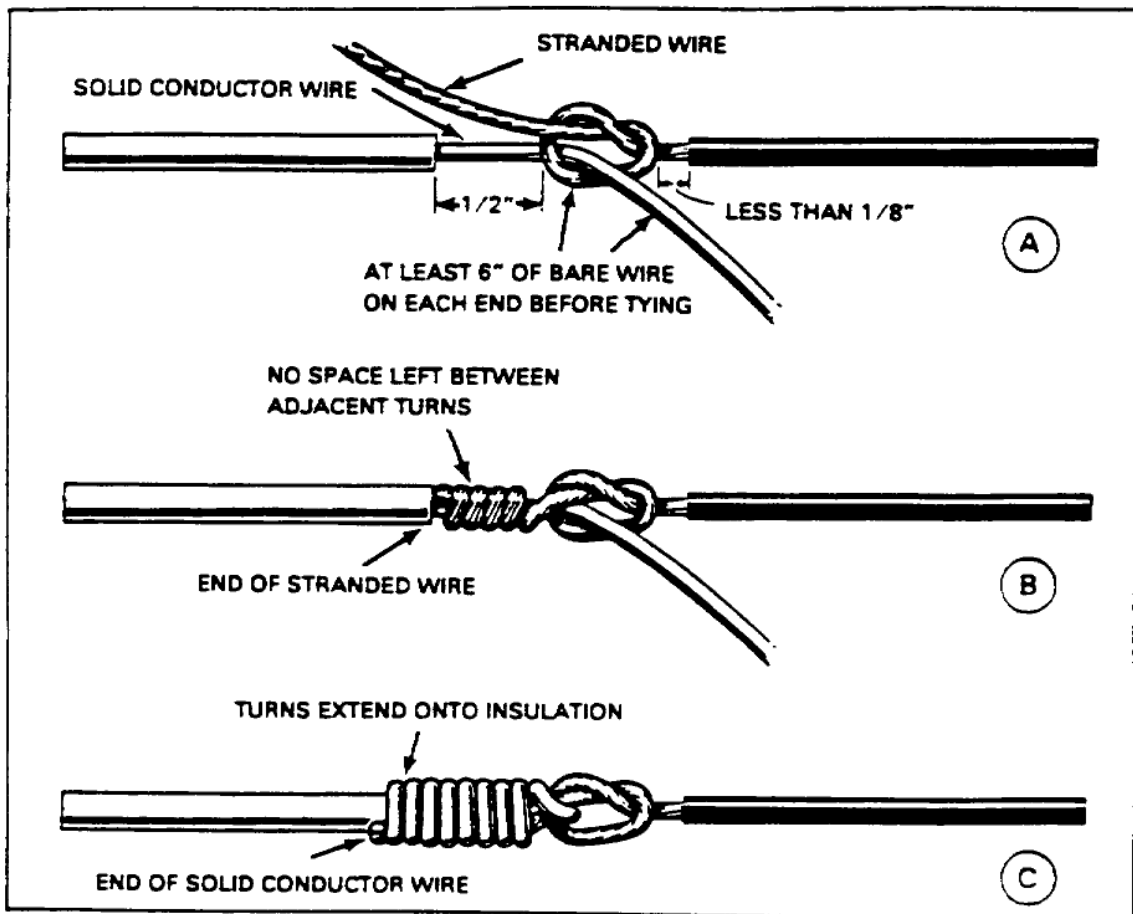

Figure 6-20. Combination splice, solid to stranded conductor
The combination splice (figure 6-20) is used to splice an insulated stranded conductor to an insulated solid conductor. It is made as follows:
- Slip the knotted wire over the solid conductor to within 1/2 inch of the solid conductor wire insulation (A, figure 6-20).
- Wrap the stranded wire around the solid conductor up to the insulation (B, figure 6-20). Cut the excess stranded wire.
- Bend the end of the solid wire back at the knot, and wrap it around the stranded wire until two turns are made on the insulation (C, figure 6-20).